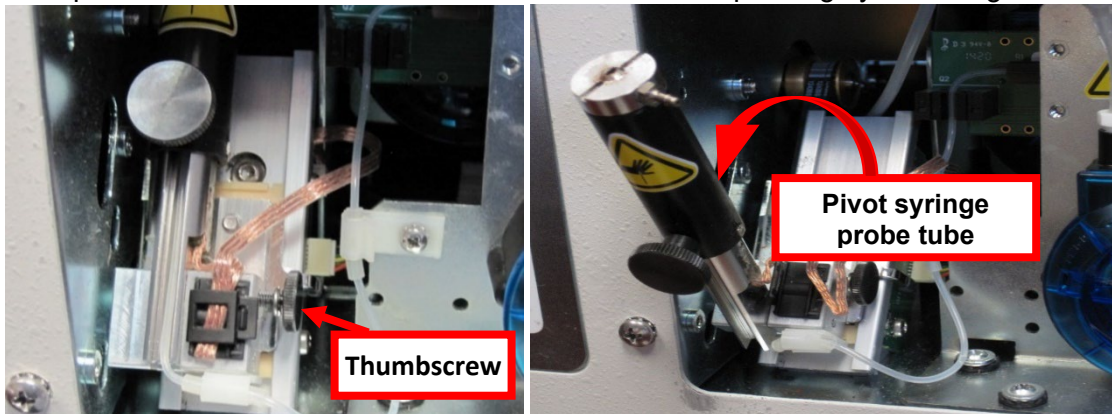

Figure 9
- 3.3. Loosen the **black** Thumb Screw **on the side** of the piercing system to allow the Probe Tube to be pivot forward. Only loosen the Thumbscrew until the Probe Tube can be pivoted out. Do not remove Thumbscrew from the piercing system. Figure 9